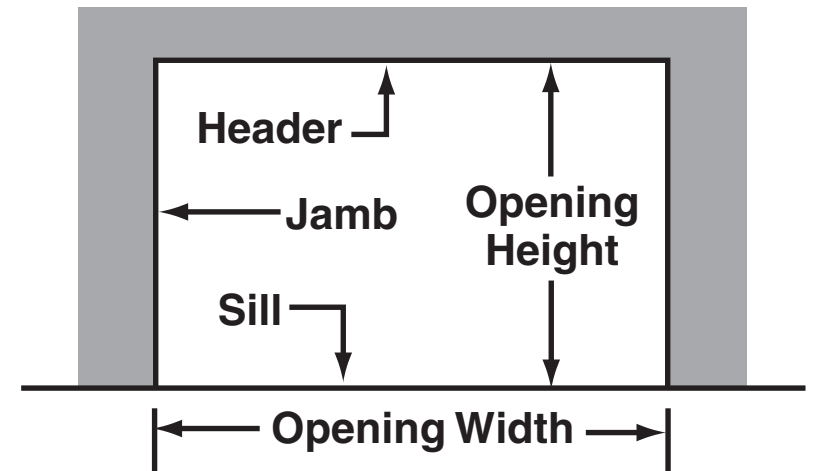

FIG 3
- Does the wall opening shown in FIG 3 match the Opening Width and Height shown on the "Door Installation Data" sheet?